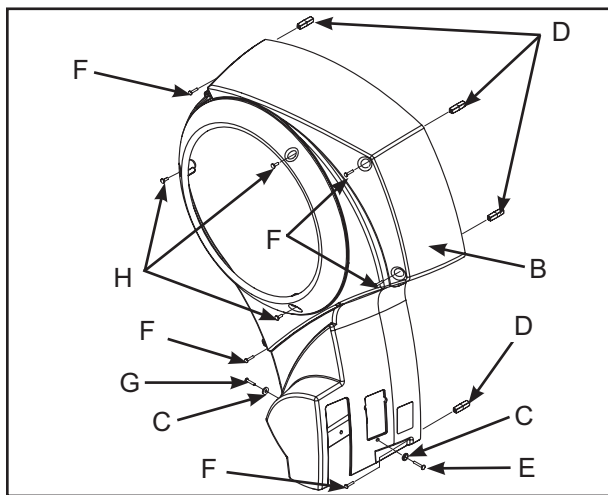

Figure 4
B. Using a Phillips head screwdriver, install the ten screws and two washers securing the side cover. See Figure 4